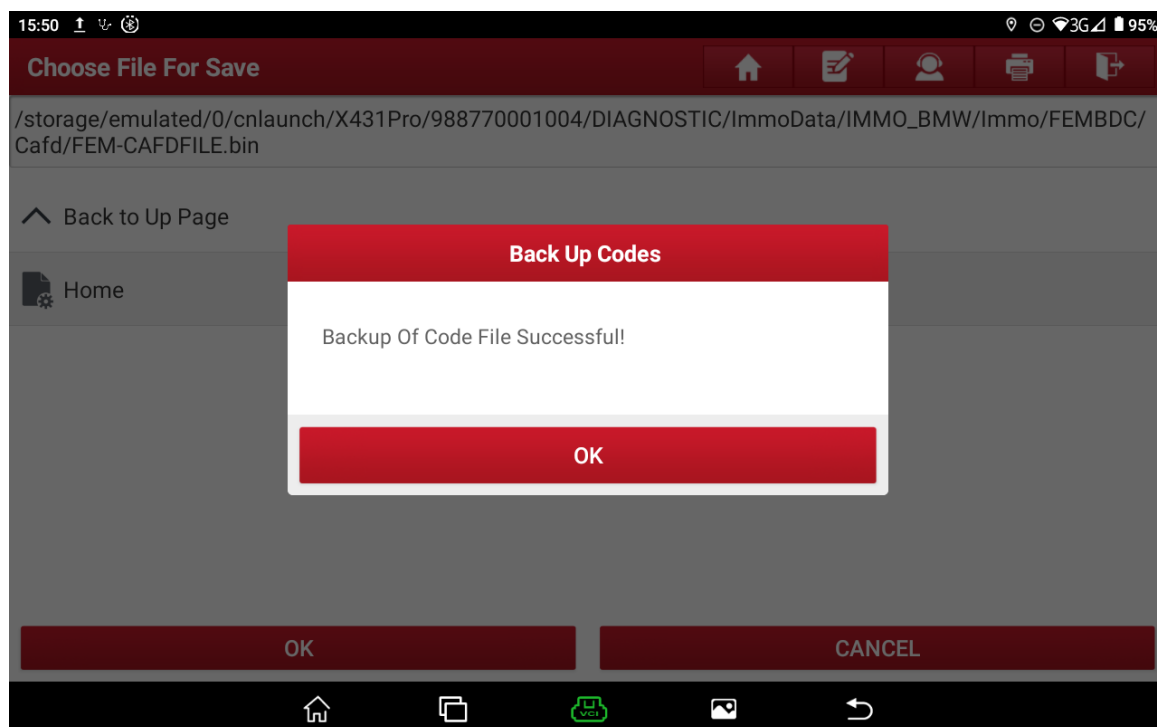

Figure 11
11. The code file is successfully backed up. Select “OK”, as shown in Figure 11;